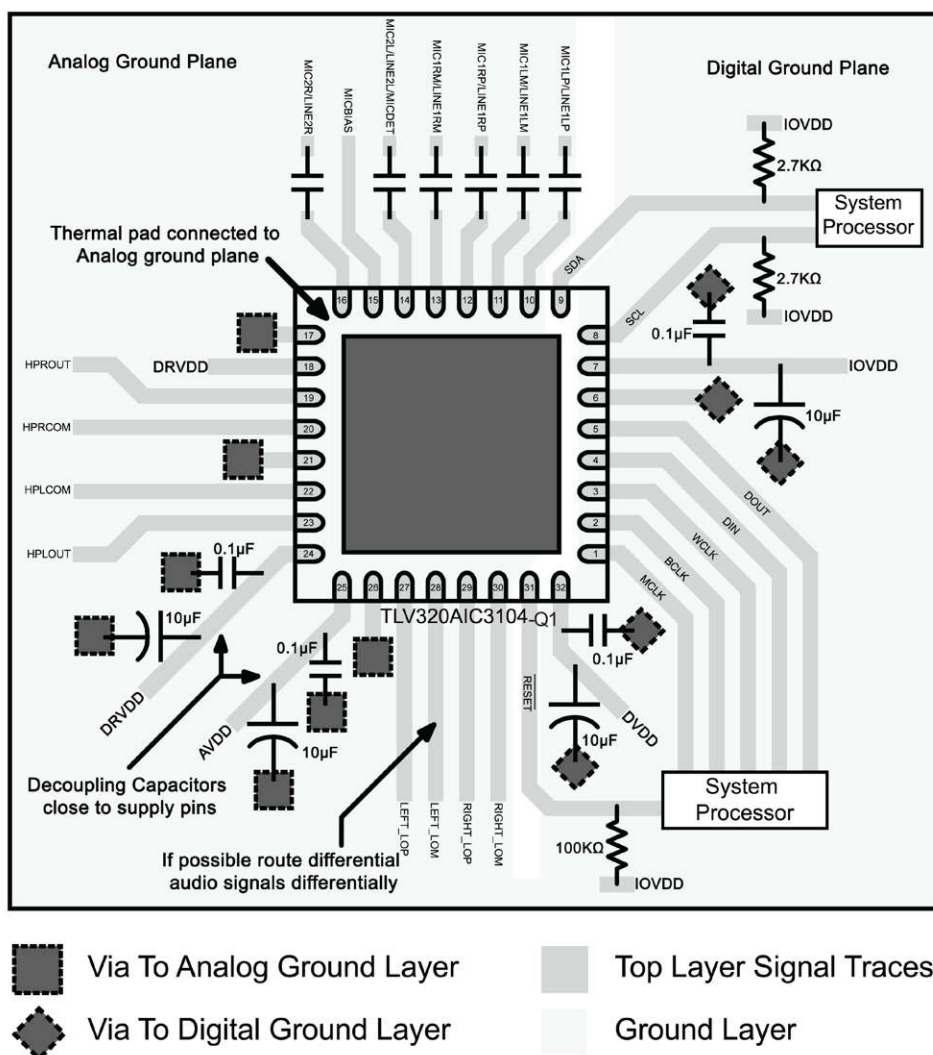

图 9-7. Layout Example
- Following the recommended component placement, schematic layout and routing given in Figure 9-7, integrate the device and its supporting components into the system PCB file.